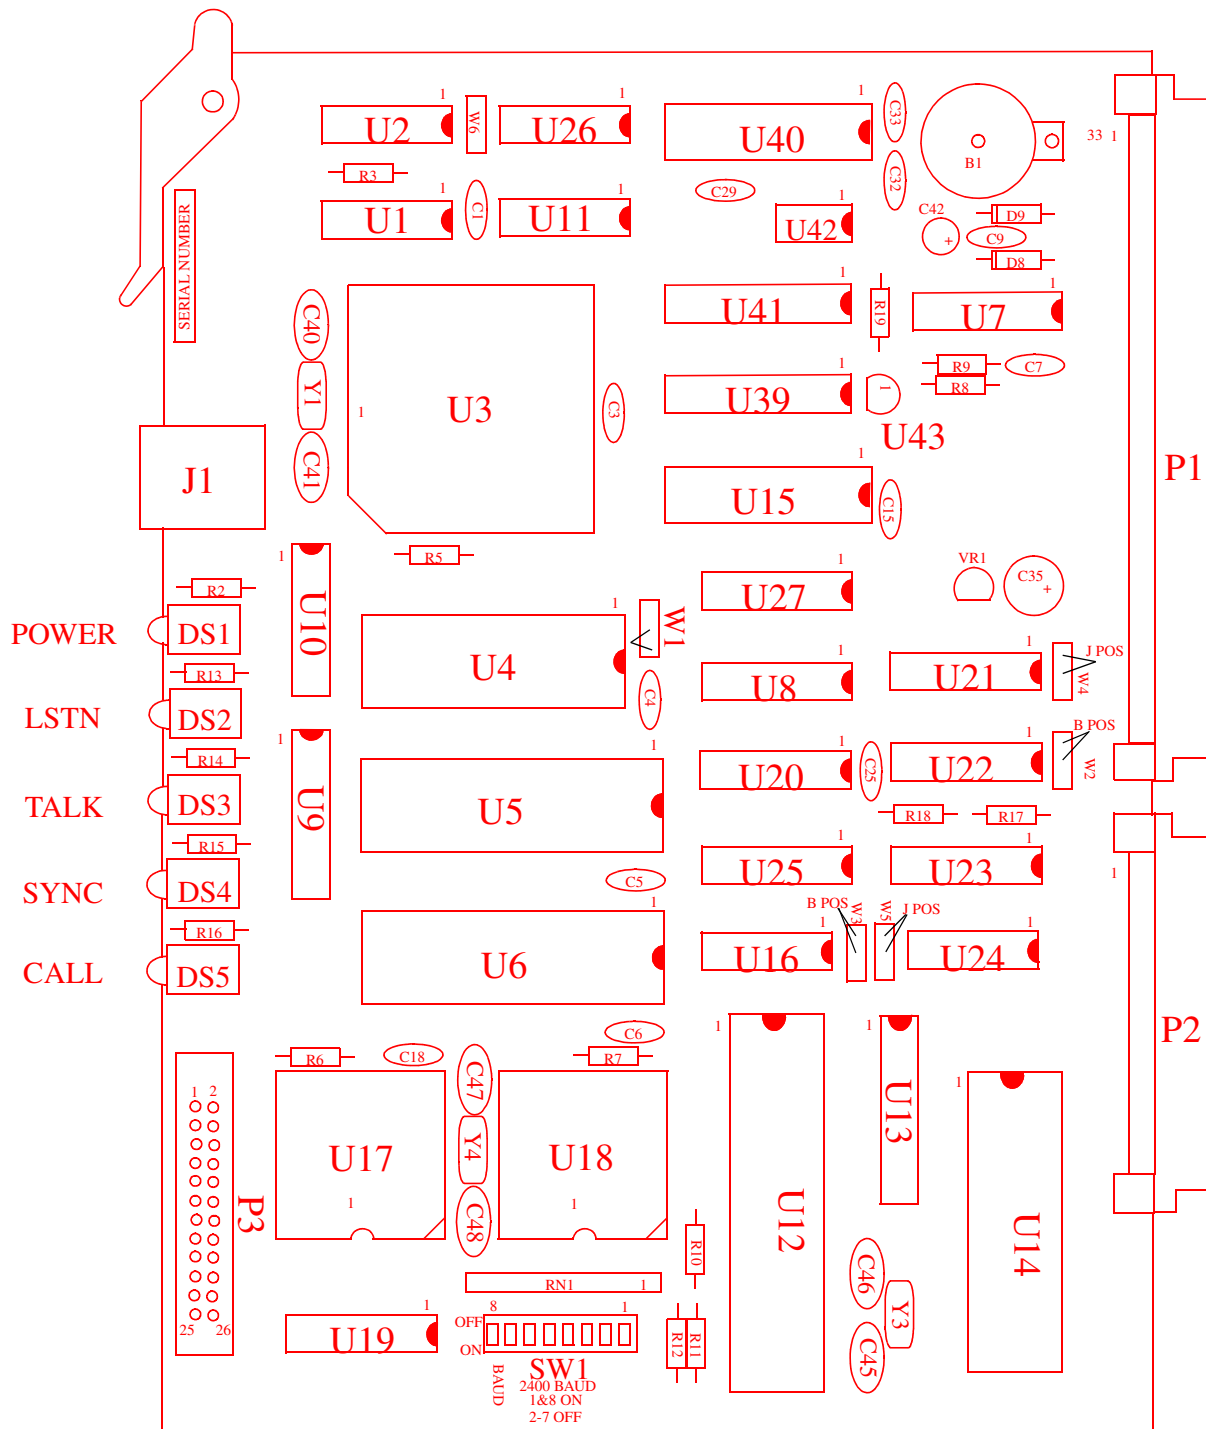

Figure 10-4 VNC (DIGITAL) CARD COMPONENT LAYOUT
1. Connections to the programming jack J1, located on the front of the VNC Digital board (see Figure 10-4).